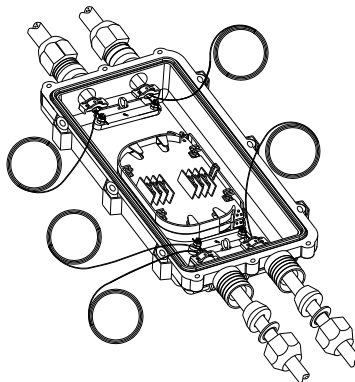

Figure 2
4.1 Fixed cable and reinforced core according to the picture below. See figure 2